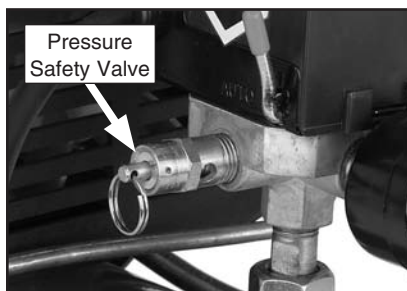

Figure 11. Pressure safety valve.
1. Locate the pressure safety valve shown in **Figure 11**.